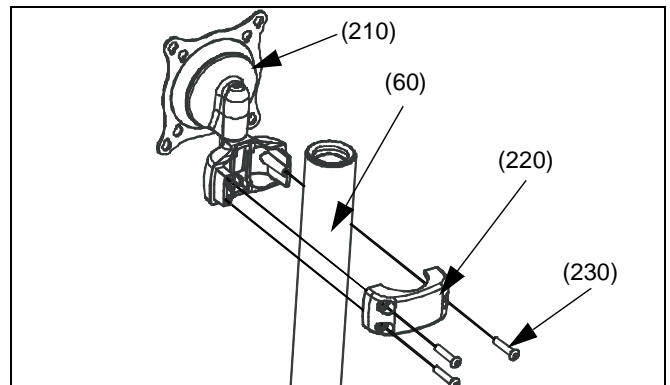

Figure 3: Mount Centris Head with Pole Clamp
2. Place front pole clamp, with Centris Head, (210) against pole in approximate mounting location.
3. Place three BHCS (230) into rear pole clamp (220) and place against pole aligning with front pole clamp (210). (see Figure 3)
4. Secure rear pole clamp (220) to front pole mount (210) and pole by tightening three BHCS (230) using 5/32" hex key (120). (see Figure 3)